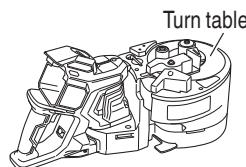

Fig. 40
- (3) Position the tool so that the turn table is facing upwards (Fig. 40)